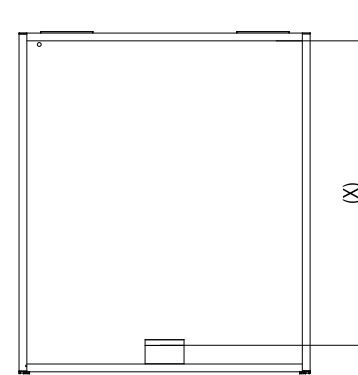

Fig. 3
- 2.1 Measure the distance between the top of two aluminum alloy bars with tape measure is (x)MM (Fig. 3). Repeat the operation as shown in 1.2-1.4 (Fig. 4).